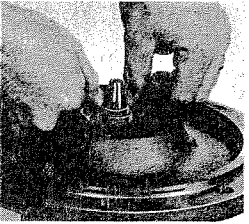

FIGURE 5
7. Install new carbon assembly. Coat inside of rubber bellows with special grease provided (do not use any other oil or grease) and slide assembly (carbon first) over shaft until carbon meets seat. Push on rubber insert on very end of assembly and not on outside diameter of carbon retainer. Be sure carbon face stays absolutely clean. (see Figure 5)